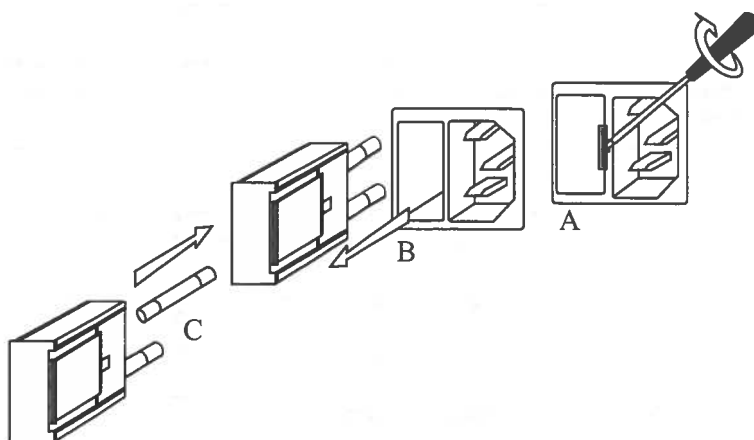

Fig. 12-1 Opening the fuse holder
4. The fuse holder is located to the left of the mains socket. Remove fuse holder as depicted in Fig. 12-1.